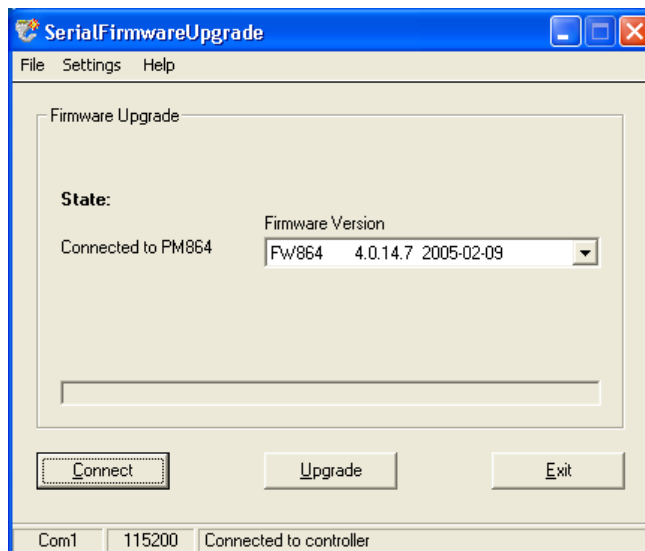

Figure 53. A Firmware version displayed in the text field
- Click **Connect** button and press the **Init** push-button on the PLC until the **Run** LED starts to blink. Wait for a minute until a message appears. If the connection is successful, a confirmation text appears in the Firmware Version text field (Figure 53).